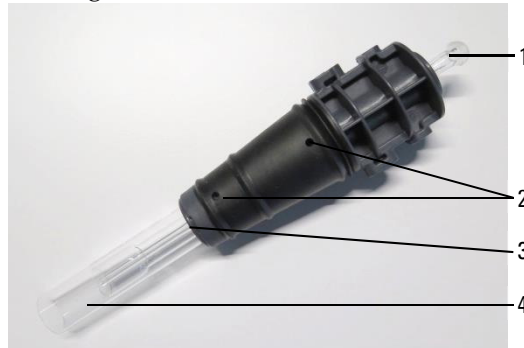

Figure 12. Torch components where 1. Ball joint, 2. Gas ports, 3. Torch securing ring (demountable torch only), and 4. Torch outer tube
- 2 **One-piece torches:** Place the torch in the vessel so that the acid covers the quartz to just below the plastic base. See Figures 13A and 14. To remove build up from the lower part of the injector, pipette some of the acid through the ball joint of the injector. See Figure 12.